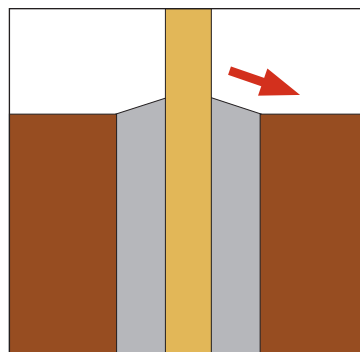

Figure 3.4
*Form concrete at support post 1"-2" higher than the adjacent ground to allow positive drainage away from post. Refer to Figure 3.4, below.*